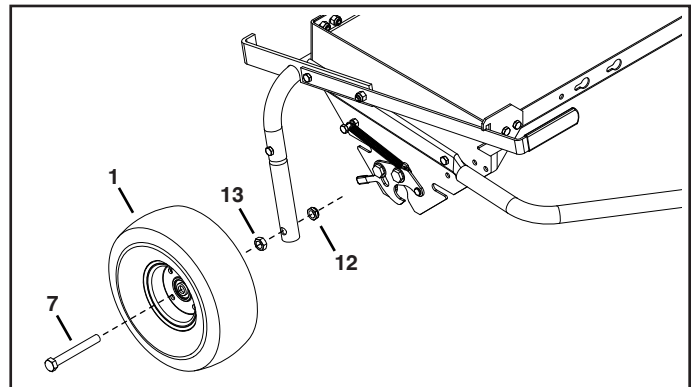

FIGURE 7
13. Attach the wheels (1) to the lift tube assembly using a 1/2 x 4" hex bolt (7), a 1/2" jam nut (13) placed between the wheel and the lift tube assembly and 1/2" a nylock jam nut (12) for each wheel. See figure 7.